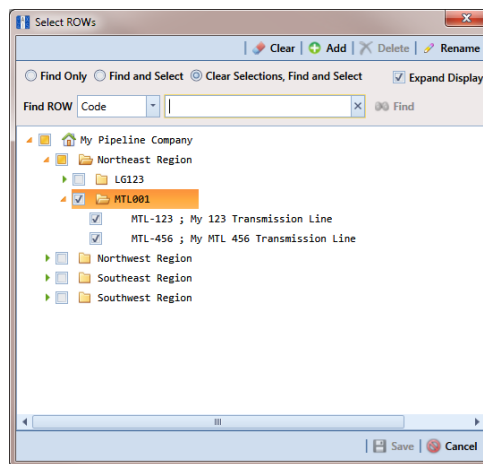

Figure 10-3. Select ROWs
- 1 Select one or more pipeline segments in the *Select ROWs* window. Choose pipeline segment(s) with facilities you want to include in the Bridge definition. Click  **Save** to close the window (Figure 10-3).
- 1 Select one or more pipeline segments in the *Select ROWs* window. Choose pipeline segment(s) you want to import SDL survey files. Click  **Save** to close the window (Figure 10-3, page 456).